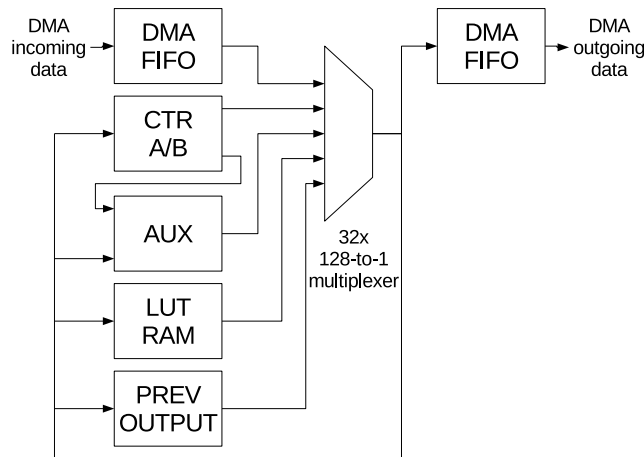

Figure 39.4-1. BitScrambler Data Path Diagram
- 64 bits, shifted in from the input FIFO (i.e., the left DMA FIFO block in Figure 39.4-1). As described before, data from the incoming DMA stream is deposited here. In order to facilitate iterating over input bits in a loop, an instruction can enable relative addressing. In this addressing mode, any mux sourcing a bit from the input FIFO register will actually get the bit offset by the counter A register (i.e., CTR A in Figure 39.4-1).
- 32 bits that were sent to the output in the last cycle (i.e., PREV OUTPUT block in Figure 39.4-1). Data sent to the output register will appear on this register one clock cycle later. This allows the BitScrambler to 'remember' data over multiple clock cycles: by outputting a bit to the output register, even if that bit subsequently is not sent to the output FIFO, the next clock cycle can still access it by selecting from this register. Bits can be remembered longer-term by selecting bits from this register for output again, which makes them appear here in the subsequent cycle.
- 32 bits from 2 x 16-bit counters (i.e., CTR A/B block in Figure 39.4-1). This register contains two 16-bit counters, named 'A' and 'B'. These can be loaded, incremented and decremented via control path instructions.
- 30 bits from comparators between counter B and the previous data on the output (PREV OUT in Figure 39.4-1; the 30 bits described here are part of the AUX block there). These allow the result of comparisons being used for output or for program flow. This can be useful in e.g. decoding run-length encoded streams, or generating PWM signals.
- 2 bits, one fixed-high, one fixed-low (i.e., part of AUX in Figure 39.4-1). These are useful if a protocol needs an always-high or always-low bit in the output that does not depend on the input data.